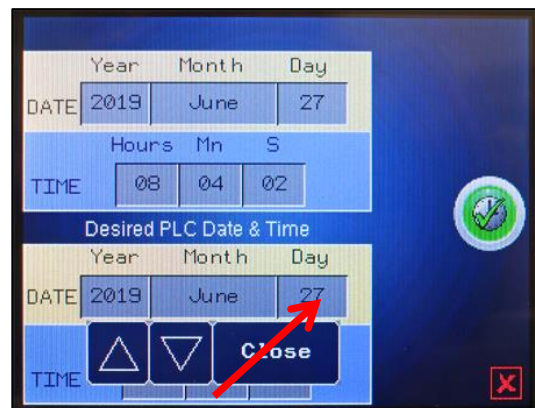

Figure 68
At the **Popup Menu** on the **Advanced Settings** screen, press on the "Set Date & Time" button, Fig. 67, which will bring up the "Set Date & Time" window, Fig. 68.
1. To adjust the **Day**, press inside the box (arrow) marked day, Fig. 68.